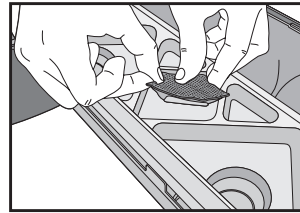

Fig. 3
- Peel off the paper strip on the Carbon Filter to expose the adhesive. Place filter adhesive-side down in the diamond-shaped insert in the center of the Waste Receptacle Lid (Fig. 3). Close the Waste Receptacle Compartment Cover.